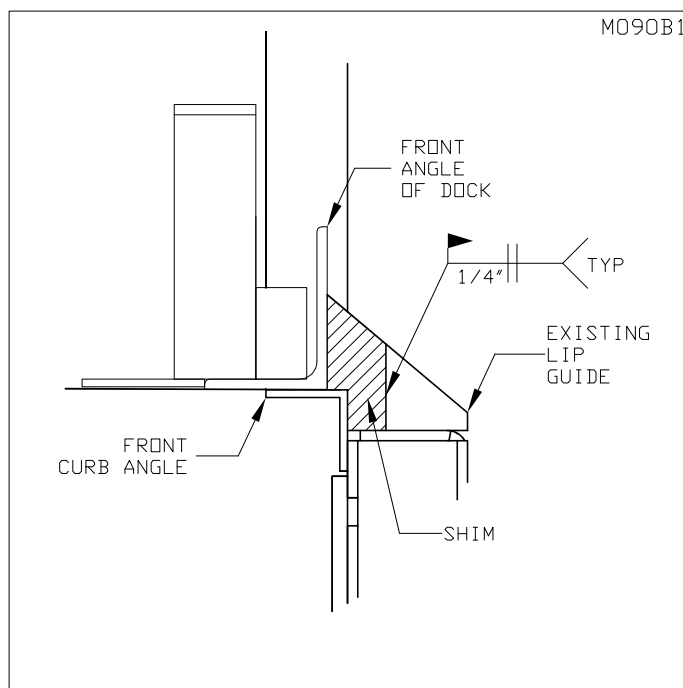

Figure 3: Front Angle Lip Guide
5. ☐ Some dock levelers may be set back from the front face of the dock pit. A shim must be cut to suit the gap between the back of the roller track plate and the face of the front angle of the dock leveler frame. "Figure 3: Front Angle Lip Guide" on page 5 shows a sample configuration (See the cross hatched area). The shim must be a minimum of 1/2" thick steel material. The shim must be positioned and welded in place.
5. ☐ Some dock levelers may be set back from the front face of the dock pit. A shim must be cut to suit the gap between the back of the roller track plate and the face of the front angle of the dock leveler frame. “Figure 3: Front Angle Lip Guide” on page 5 shows a sample configuration (See the cross hatched area). The shim must be a minimum of 1/2” thick steel material. The shim must be positioned and welded in place.